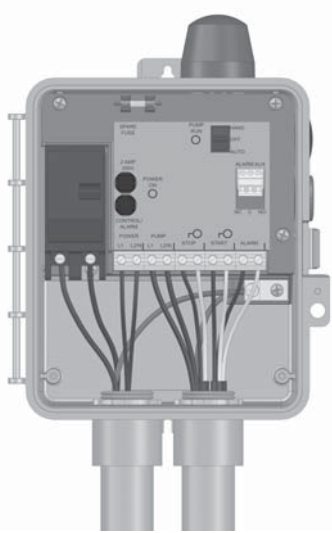

FIGURE 4
3. Determine conduit entrance locations on control panel as shown in **Figure 4**. Check local codes and schematic for the number of power circuits required.